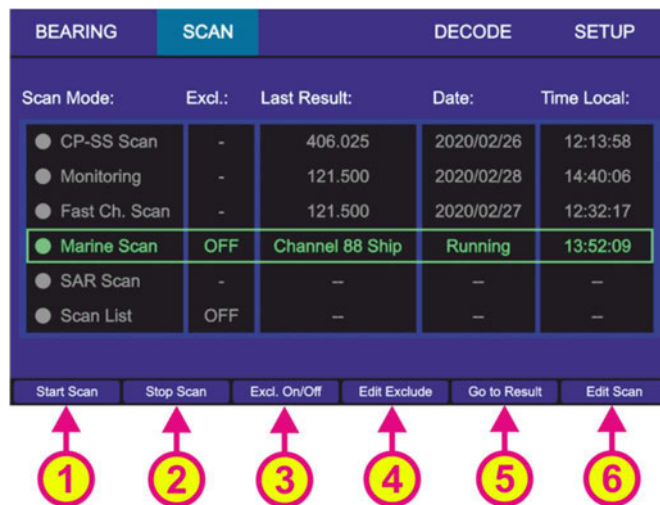
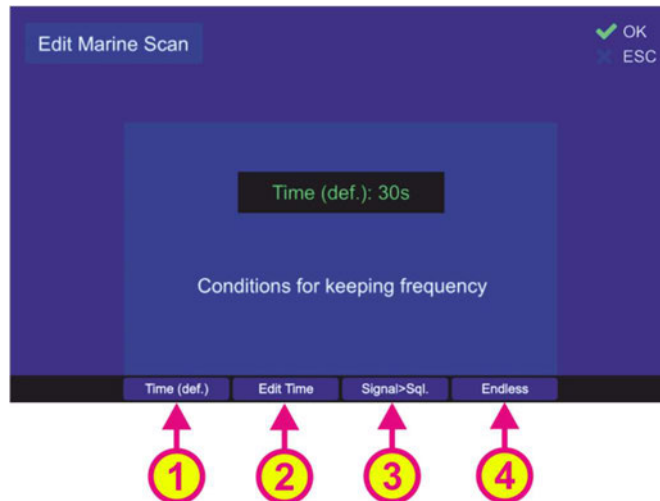

Figure 47. Marine scan is activated.
Figure 48. Marine scan settings
- To start the “Marine Scan” mode select the corresponding line on the “Scan” page and press “OK” or the hotkey “Start Scan” (s. Figure 47, position 1).
- Pressing the hotkey “Stop Scan” (s. Figure 47, position 2) will terminate the scan mode and change to the bearing of the frequency, that was set before the scan mode has been activated.
- The hotkey “Excl. On/Off” is only visible, if “Marine scan” or “Scan List” is marked (s. Figure 47, position 3).
- “Edit Exclude” is only visible, if “Marine scan” or “Scan List” is marked (s. Figure 47, position 4).
- Pressing the hotkey “Go to Result” (s. Figure 47, position 5) during the marine scan is currently running, will terminate the scan mode, adopt the frequency which was found in this scan last time and change to the “Bearing” page into normal bearing mode.
- Pressing the hotkey “Edit Scan” (s. Figure 47, position 6) will open the dialog for changing the settings of the marine scan (s. Figure 48).
- “Time (def.)” hotkey (s. Figure 48, position 1) defines the behavior of the marine scan algorithm if the active frequency (signal level > squelch level) has been found. If this hotkey is pressed, the default time of 30 seconds will be adopted after confirming this setting with “OK”. Marine scan algorithm will stay for the default time of 30 sec on an active frequency before continuing with scanning of the lower marine band.
- Pressing the hotkey “Edit Time” (s. Figure 48, position 2) will open a dialog for editing the time of staying on the actively received frequency before continuing with the scan procedure.
- Pressing the hotkey “Signal>Sql.” hotkey (s. Figure 48, position 3) defines the time of staying on the actively received frequency before continuing with the scan procedure. If this setting is confirmed, the scanning procedure will stay on the actively received frequency as long as the signal level is higher than the squelch level.
- If the hotkey “Endless” (s. Figure 48, position 4) was pressed and confirmed with “OK”, the marine scan algorithm will stay on the actively received frequency as long as the user terminates the scan or skips the current frequency.
- After pressing the hotkey “Edit Exclude” on the “Scan” page (see e.g. Figure 47, position 4), the dialog for editing the “Exclude List” will be opened. In the case of first opening this dialog, all fields will be empty.